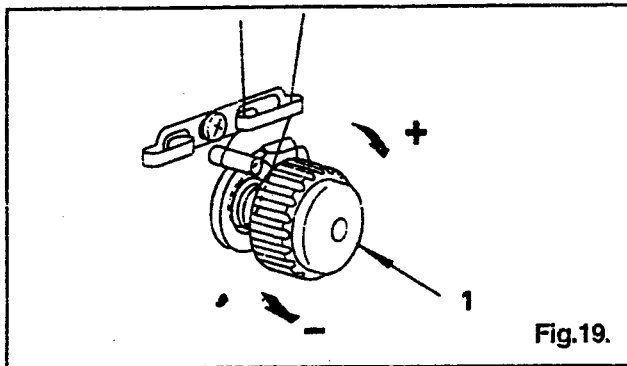

Fig.19.
Regulate needle thread tension with tension regulating knob (1), Fig. 19.
Regulate bobbin thread tension with tension regulating screw (1), Fig. 19.